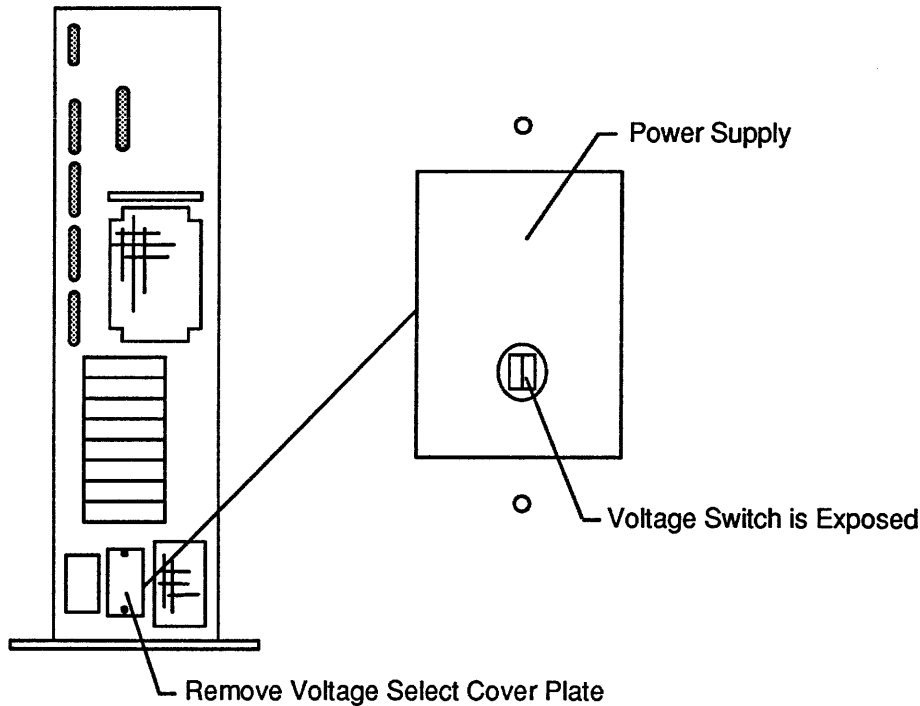

Figure 2.3. Location of Voltage Select Cover Plate and Voltage Switch
9. Remove the two screws from the metal plate containing the CAUTION note to gain access to the voltage select switch. This cover plate is located next to the power socket on the lower edge of the rear panel. Refer to Figure 2.3.
10. Use Figure 2.3 below to locate the voltage select switch on the end of the power supply.